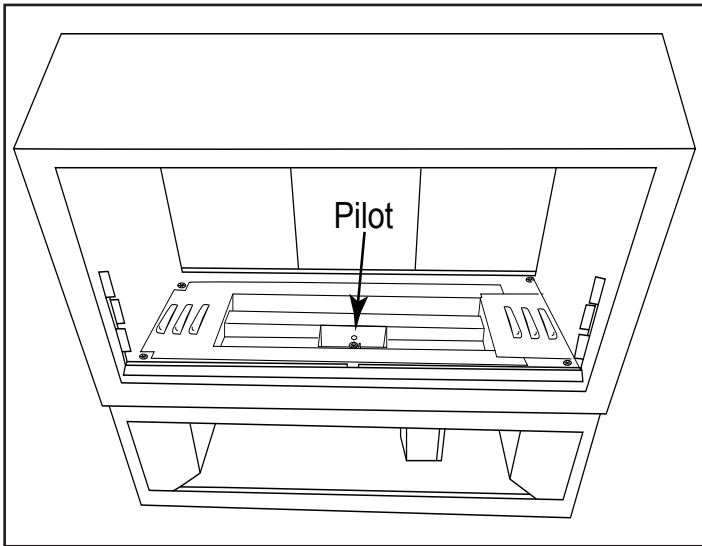

Fig. 29 Shows burner pan installed into fireplace.
**Step 20:** Install the burner pan back into the fireplace. See Fig. 29.